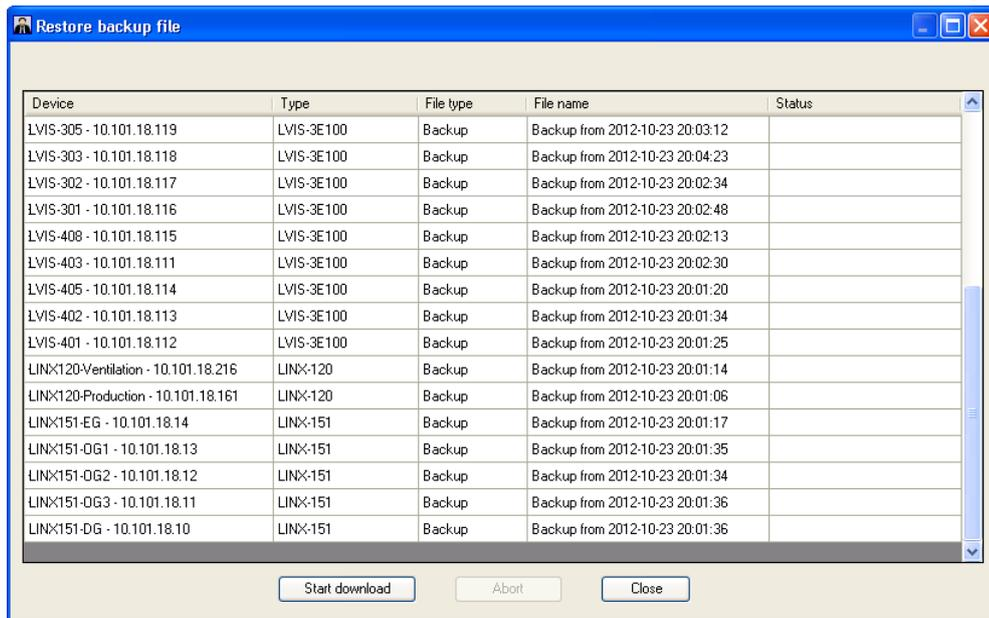

Figure 207: Restore Backup Files Dialog
5. The **Restore backup files** dialog opens (see Figure 207). To start the restore process, press the **Start download** button. During the restore operation, the **Status** column is updated with current information.